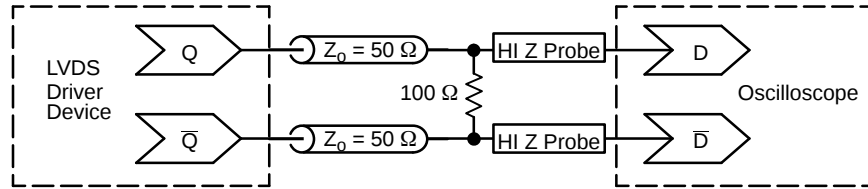

Figure 18. Typical LVDS Termination for Output Driver and Device Evaluation
4. LVDS outputs require  $100\ \Omega$  receiver termination resistor between differential pair. See Figure 18.